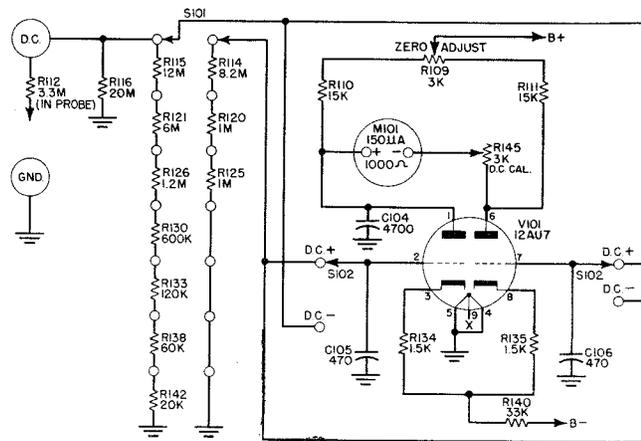
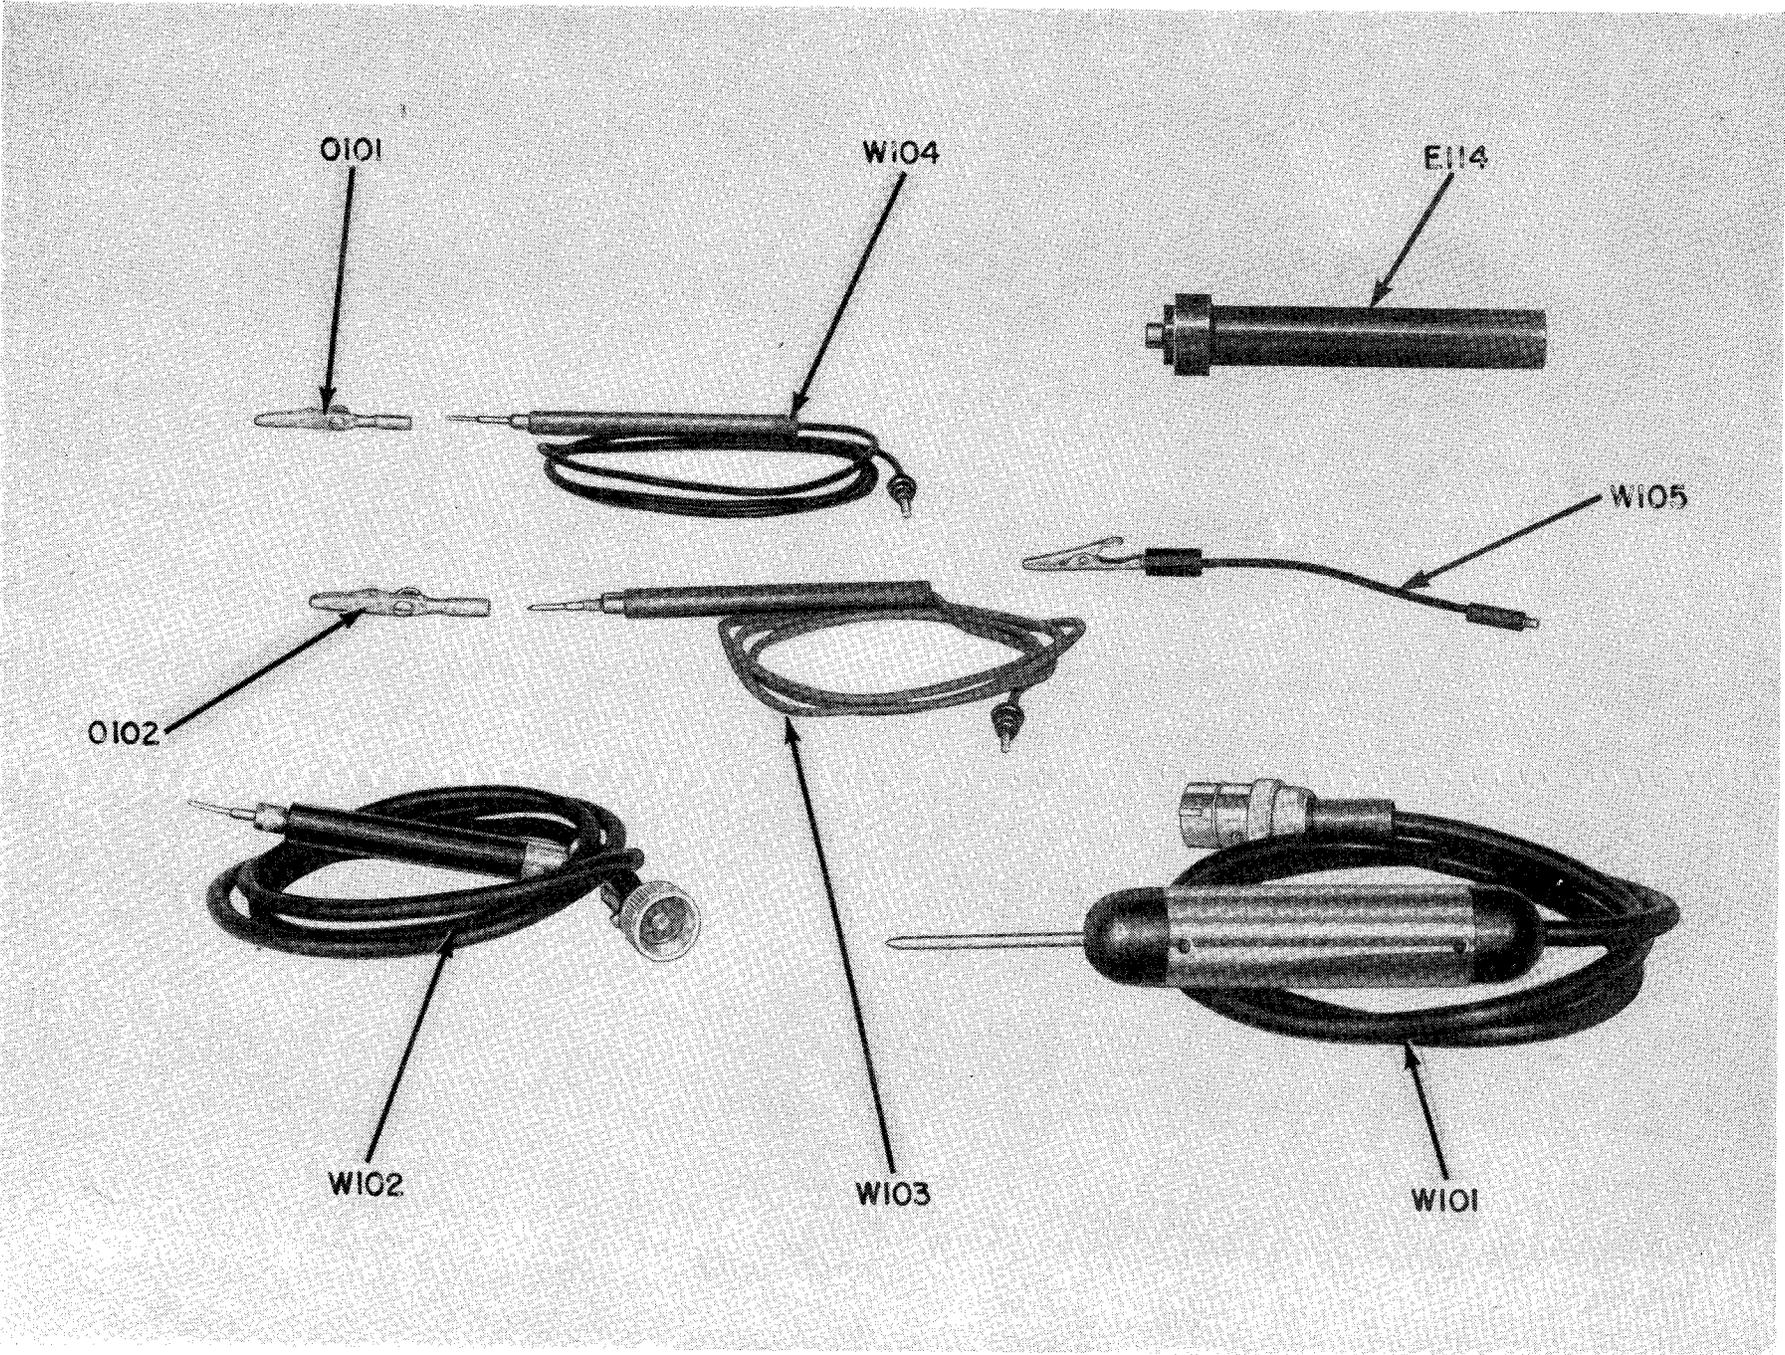

Figure 2-3. DC Voltmeter Circuit
Figure 3-4. Operating Test Cables
## b. DC VOLTMETER CIRCUIT. (See Fig. 2-3)
through the DC probe illustrated in Figure 2-3. This probe carries an isolating resistor of 3.3 megohms, R112, to prevent capacity loading of the circuits under test. For 5000 volt DC measurements the voltage extension probe, MX-1101/U (E114), illustrated in Figure 3-4, is screwed on the end of the regular DC probe. This high voltage probe contains an isolating and voltage dropping resistor of 53.2 megohms. Voltages to be measured are applied from the probe to the high end of the voltage dividing network on RANGE SELECTOR switch S101. Voltages from this network are taken to grid pin 7 of V101 for measurements of DC voltages positive with respect to ground, and to pin 2 of V101 for measurements of voltages negative with respect to ground.
The voltage dividing network of S101 is shunted to ground by means of R116, a 20 megohm resistor, as the sensitivity of the measuring networks is such that this value of resistance is required to effect proper calibration. An additional section is used on S101 and comprises R114, R120 and R125 which are used respectively on the 1, 2.5 and 10 volt ranges. The purpose of these resistors is to permit a small amount of contact potential to be developed on the grid which is not being used in connection with the main voltage dividing network section of S101. Figure 2-3 illustrates that the unused or inactive grid is connected to the slider arm on this section of the switch. Both grids, pins 2 and 7, are bypassed to ground by C105 and C106 respectively. The purpose of these bypass condensers is to prevent any possible stray AC which might be picked up and fed to the grids affecting the calibration of the equipment.
(1) Make certain that all test leads, as illustrated in Figure 3-4, are in the cover of the instrument. Carefully check for mechanical damage to connectors or cables.
(2) Loosen the eight screws securing the instrument to the case and inspect chassis to make certain that all tubes are undamaged and in their proper sockets.
(3) Give the entire equipment a careful mechanical inspection to make certain there are no damaged components.
(4) Replace instrument in case.